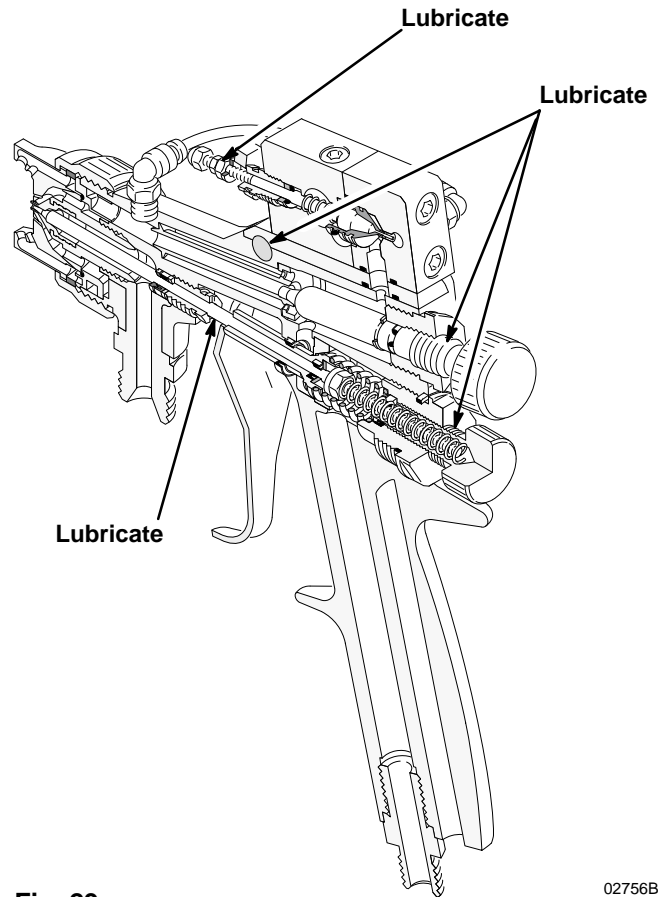

Fig. 29
4. Lubricate the following gun parts daily, using Part No. 111-265 lubricant. See Fig. 29.